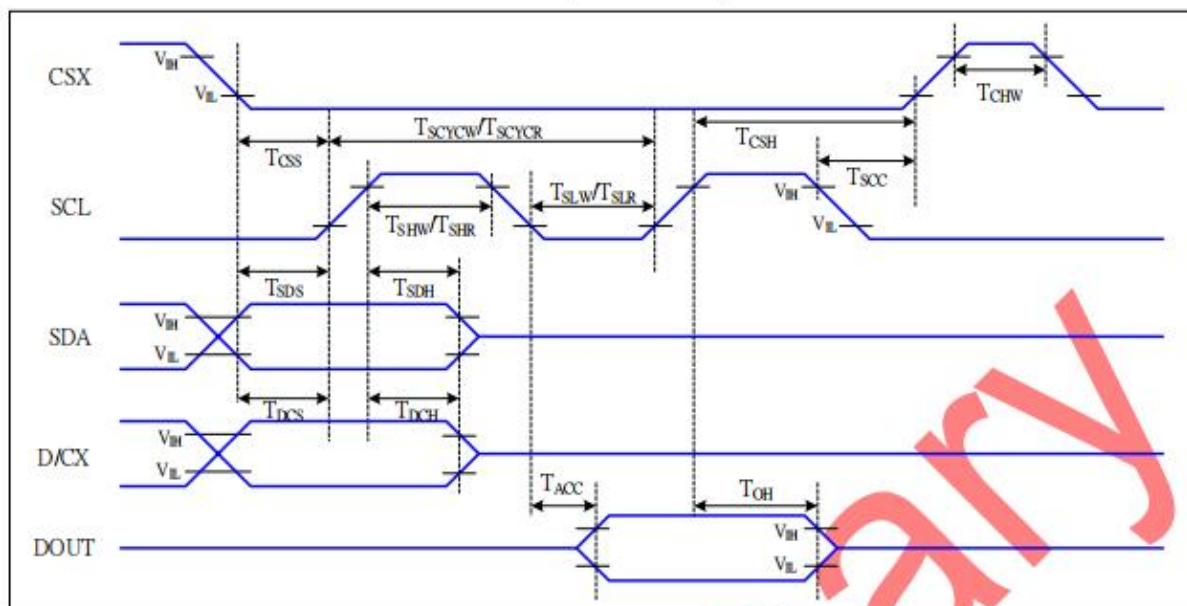

Figure 5 4-line serial Interface Timing Characteristics
6. The electro-optical response time measurements shall be made as FIGURE 5 shown in Appendix by switching the "data" input signal ON and OFF. The times needed for the luminance to change from 10% to 90% is T_d , and 90% to 10% is T_r .